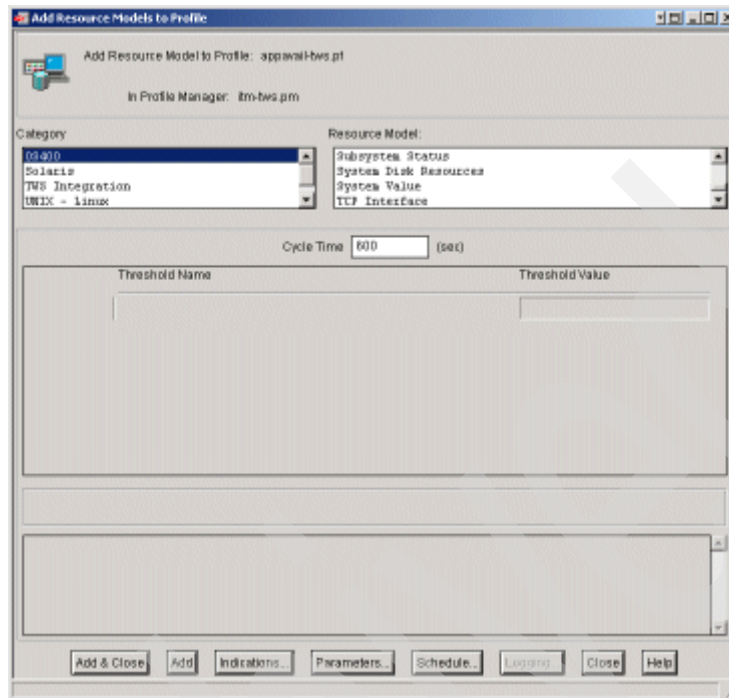

Figure 9-81 Add Resource Models to Profile window
2. Select **Add**. The Add Resource Models to Profile window opens as shown in Figure 9-81 on page 494.